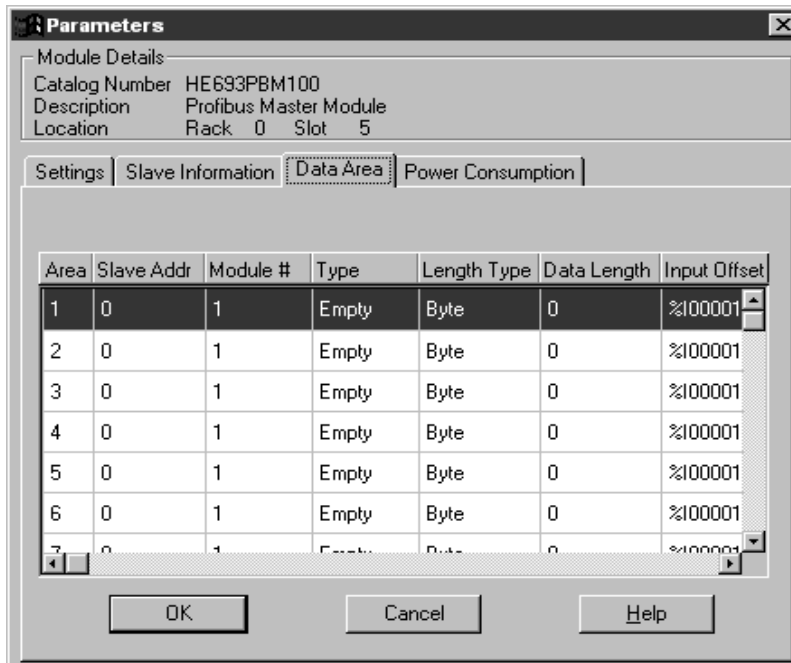

Figure 3.5
| <p>Bits do not represent slave addresses. Bits 0-63 are the slave status bits ordered by the slave areas of the master configuration in Cimplicity™ Control</p> <p>In order to determine which slave is not properly functioning, the user must:</p> <ol style="list-style-type: none"> 1. First, identify the affected bit using this table; 2. Second, determine the area (See Figure 3.5 – Data Area of Master Parameters screen) The area is indicated in the first column of the screen. 3. Third, the slave address is located next to the appropriate Data Area column. <p>Example: bit 0 = area 1 (as seen in Figure 3.5) bit 1 = area 2 “ thru bit 63 = area 64 “</p> | | | |
Step 9: Next Click on the Data Area tab, the following screen should appear (**Figure 3.5**).
- c. To configure the input, tab down to the next line (area 2 in **Figure 3.5**). Enter a 3 for the Slave Address. The module type is a 2. Since the slave is configured for both inputs and outputs, it is looked at by the master as two modules with the same bus address. Configure the type, length, and mapping as before. The master is now configured for a slave at bus address 3 and as both in input device and an output device.
4. After the import is finished, the Slave address must be assigned. Enter any valid unused address into the “Slave Information” “Bus Address” field. This address must be used to update the “Data Area” “Slave Address” fields of the modules added by the Import. The “Data Area” “Modules #” fields will also need to be updated so that they are numbered sequentially from 1 to 8. (See Chapter 3, Figure 3.5.)